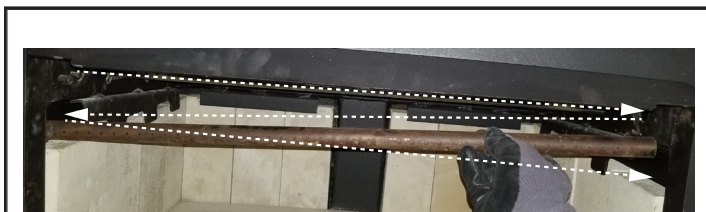

Figure 17 Front Air Tube Removal
2. Remove the air tube by sliding it into the space to the right, followed by sliding the tube left and partially forward, and finally remove the tube by sliding to the right and out of the firebox. Overall this pattern looks like the letter Z. See Figure 17.